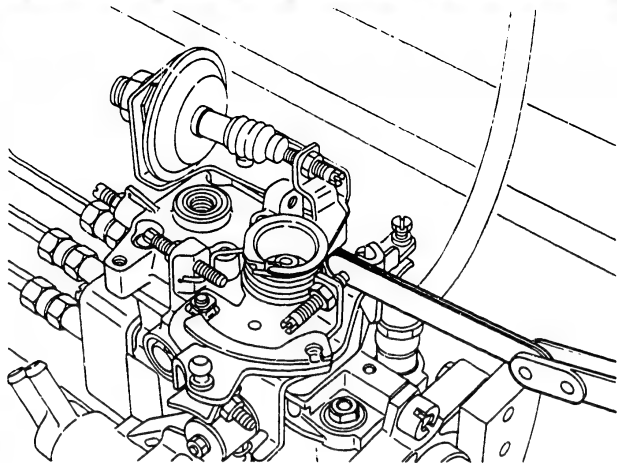

Fig. 201 Adjusting the control lever position
1. Adjust the control lever position so that the distance between the tip of the idle adjusting screw and the bracket is as specified. (Fig. 201)